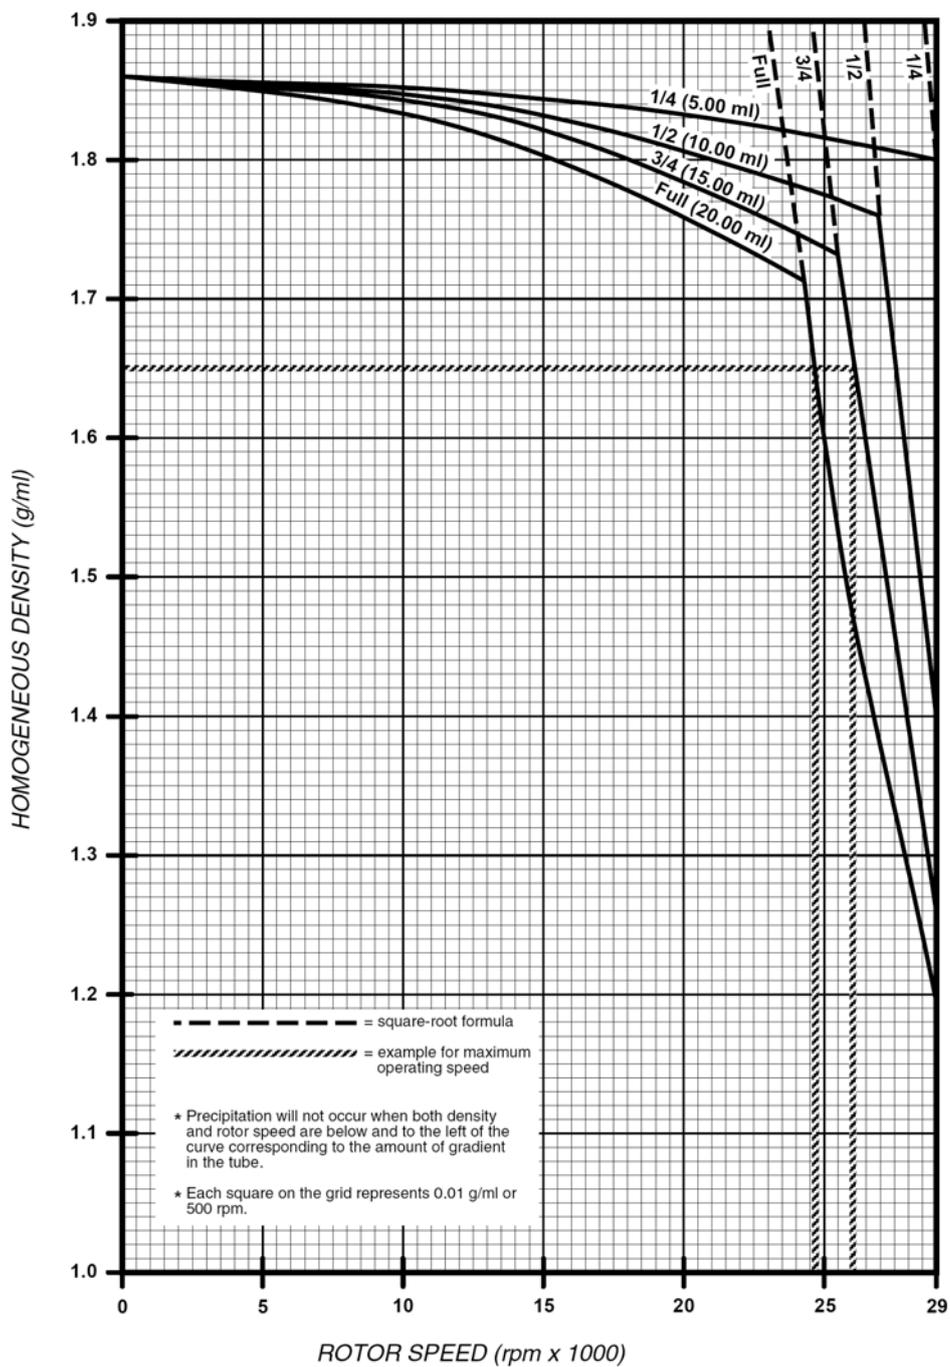

Figure 2-9. CsCl Precipitation Curve, 20 ml Buckets, 25°C
- 24,700 rpm at 25°C using 20 ml buckets (Figure 2-9)
- 26,000 rpm at 25°C using 20 ml buckets (Figure 2-9)